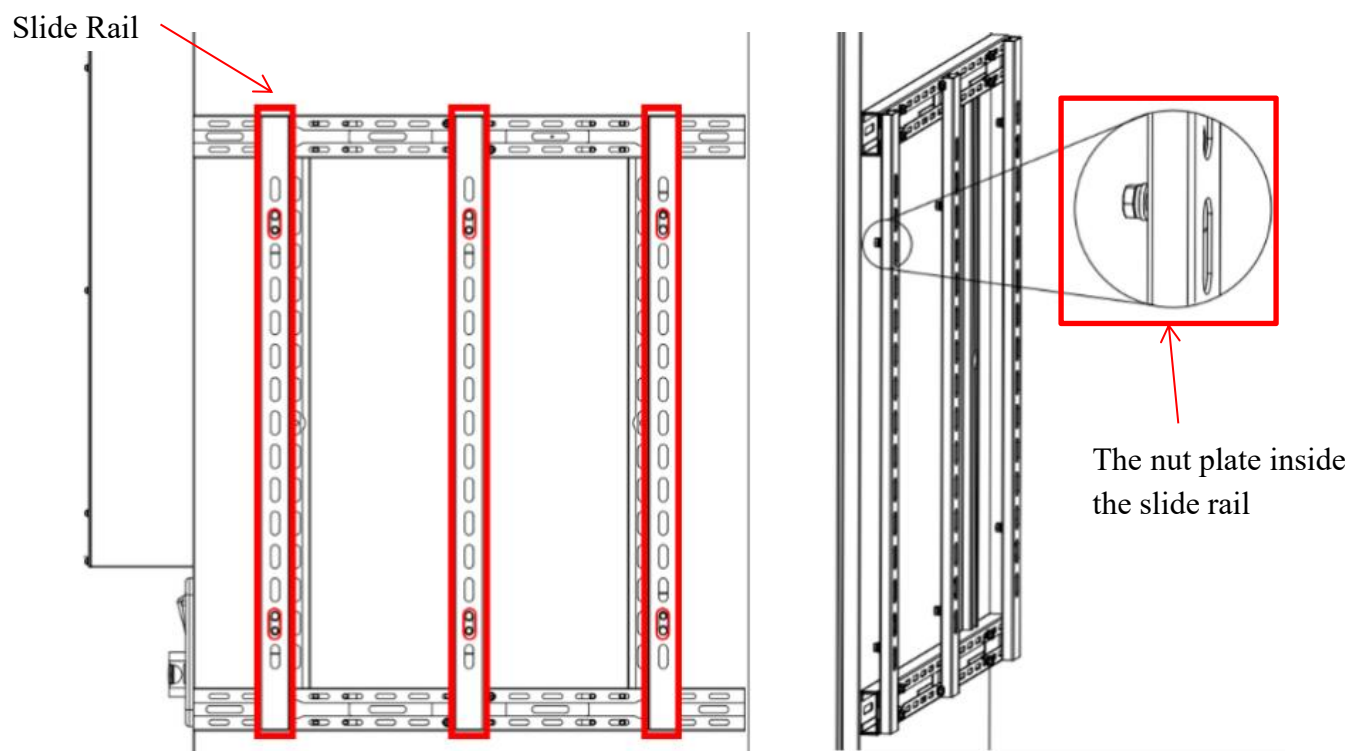

Figure 5.2.5.2 Bracket Adjustment Schematic Diagram 2
(3) Reinstall the screws removed previously back into the cabinet bracket to complete the fixing of the slide. In addition, the movement and fixation of the nut plate is mainly based on the tightness and looseness of the nuts on it (Figure 5.2.5.3).